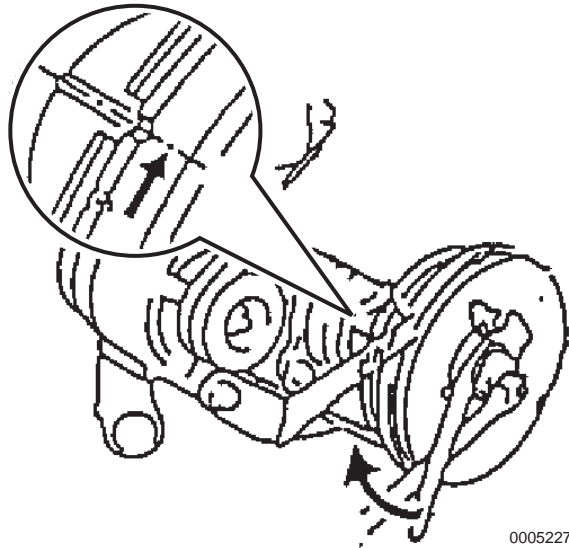

Figure 5-226
2. Turn the crankshaft pulley clockwise to align its groove to that of the timing gear cover (Figure 5-226).